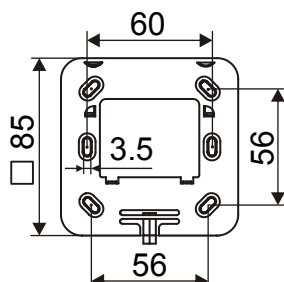

Fig. 2
2. Mount the base plate (Fig. 2) on a wall or recess-mounted socket using 2...4 screws with max. diameter 3 mm.